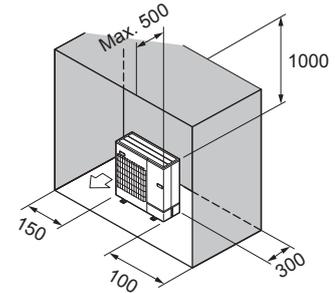

Fig. 3-11
- Obstacles at rear, sides, and above only (Fig. 3-11)
(3) When installing multiple outdoor units (Refer to the last page)